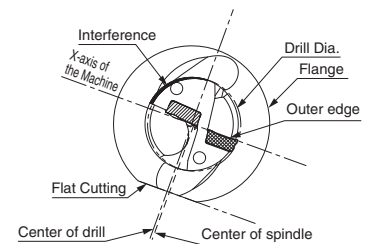

Fig. 4 Excessive offset (For Smaller Hole Diameter)
- (1) Align the drill with the outer insert face parallel to the X-axis of the tool turret. (Fig. 4)
- (2) Adjust the scale at the flange periphery of the sleeve to the reference mark (DRV/DRX) or the center of coolant plug (DRZ).
- (3) When no core remains, rotate the sleeve to (+) direction to make the core larger, and when the core diameter is 1mm or more, rotate the sleeve to (-) direction to make the core smaller.
- (4) When rotating the sleeve, insert the wrench supplied with the drill into the hole on the flange periphery to rotate the sleeve.
- (5) After Completing the adjustment, firmly tighten on the drill directly through the sleeve's window.
However, be sure not to make the hole diameter smaller than the drill diameter by 0.2mm or more. Otherwise, the toolholder will interfere with the drilled hole. (Fig. 4)